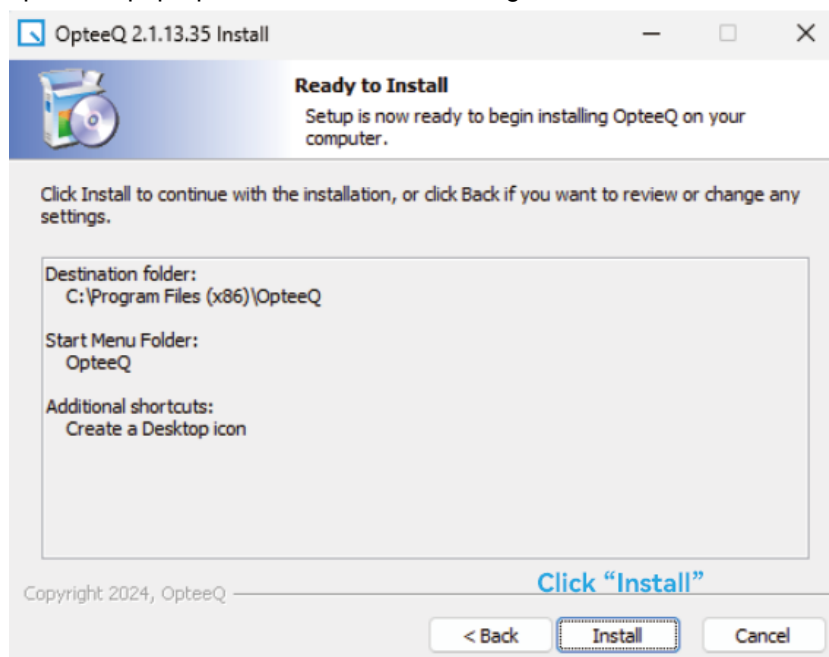

Figure 1.7 Step 7
Step 7: Click "Set up" in the pop-up interface, as shown in Figure 1.7.